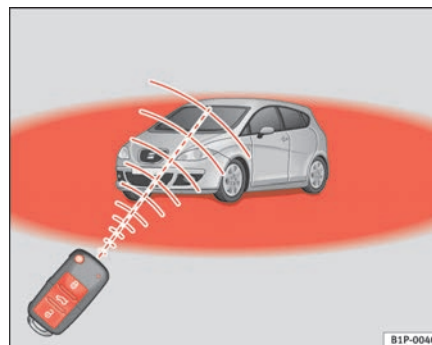

Fig. 63 Range of the remote control:
- The remote control functions only when you are in range ⇒ page 98, fig. 63 (red area).